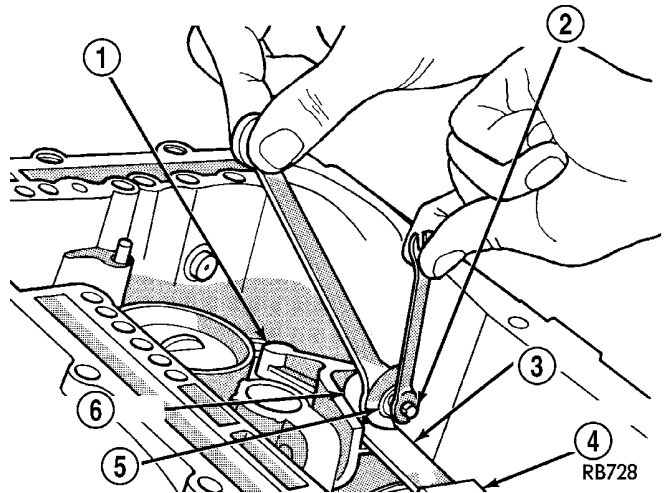

Fig. 74 Adjust Low/Reverse Band
(34) Install low/reverse band strut.
(35) Adjust low/reverse band. Tighten adjusting nut (Fig. 74) to 5 N·m (41 in. lbs.) torque. Back off adjusting nut 3½ turns. Torque lock nut to 14 N·m (125 in. lbs.).